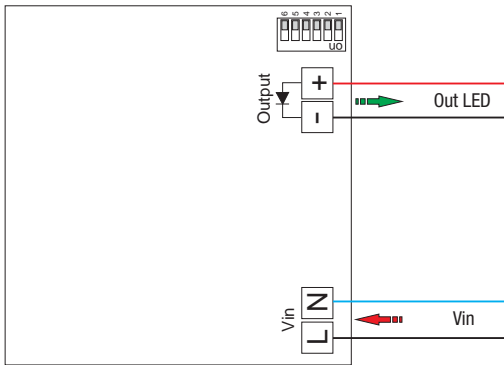

Fig. 2 - RN9160
A - Funzione 0÷10Vdc (S10) - DIM34... (R) - Fig. 2 - Tramite segnale di controllo 0÷10Vdc (RN9160)
A - 0÷10Vdc (S10) function - DIM34... (R) - Fig. 2 - By means of control signal 0÷10Vdc (RN9160)